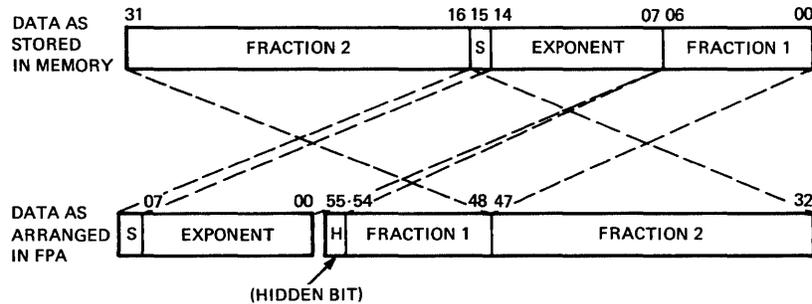
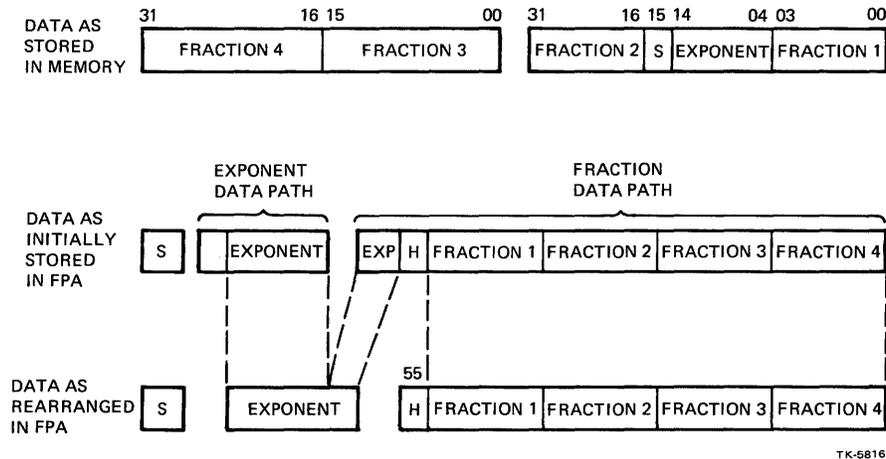

Figure 2-1 Single Precision Data Format
Figure 2-3 Grand Data Format
Of the four floating-point formats (Figures 2-1 through 2-4), single (F) is 32 bits long. Double (D) and grand (G) are 64 bits long and huge (H) is 128 bits long. The words contain fraction and exponent fields, plus a sign bit. Figures 2-1 through 2-4 illustrate how the format is rearranged in the FPA.
As Figure 2-1 illustrates, an 8-bit exponent is used for single-(F) and double-(D) precision formats; an 11-bit exponent is used for grand (G) format (Figure 2-3); and a 15-bit exponent is used for huge (H) formats (Figure 2-4).